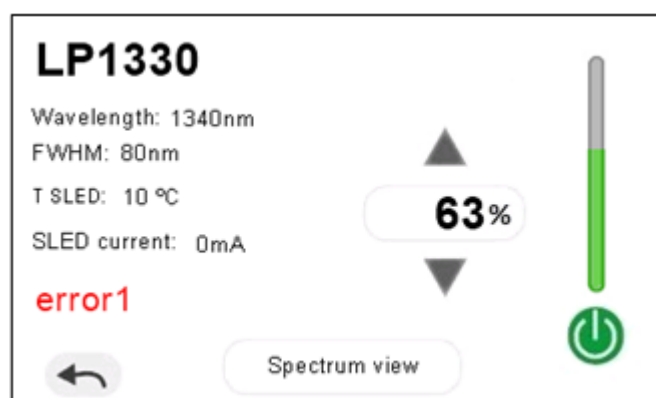

Figure 5. SLED screen when an error occurs
- Type of error (only when an error has occurred, see **Figure 5** on next page)
The warning won't disappear until the error has been solved (circle green or yellow) and we have accessed to the screen of the corresponding SLED (see **Figure 5**, in this case, error 1 took place). This way we will be able to know which type of error happened. The error codes are given in **Table 1**: